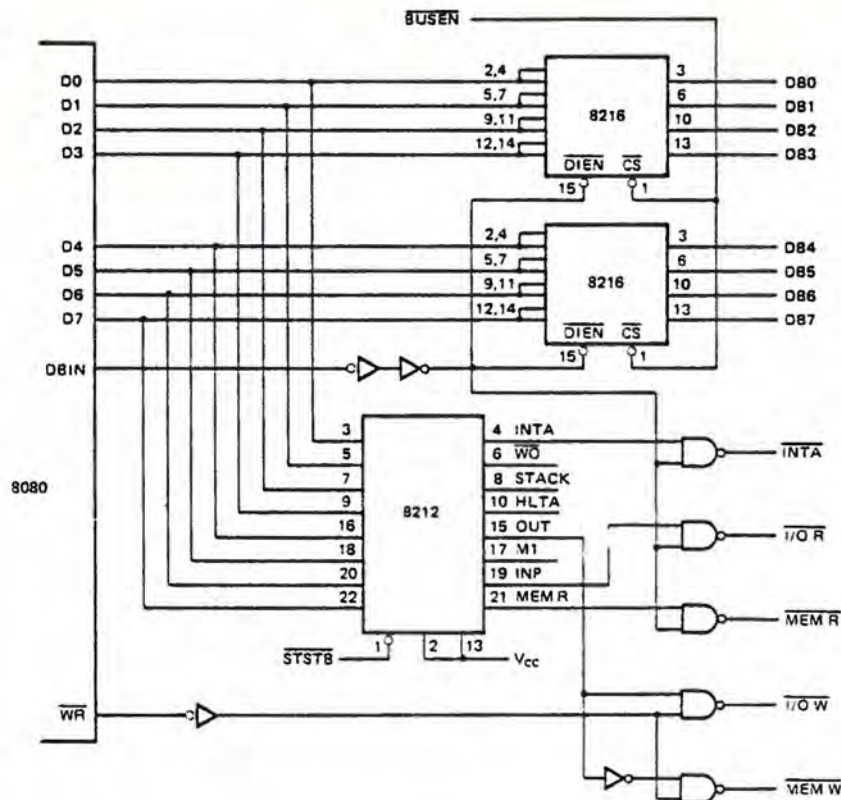

Figure 3-5. 8080 System Control
A pair of 8216's are connected directly to the 8080 Data Bus (D7-D0) as shown in figure 3-5. Note that the DBIN signal from the 8080 is connected to the direction control input ( $\overline{DI\overline{EN}}$ ) so the correct flow of data on the bus is maintained. The chip select ( $\overline{CS}$ ) of the 8216 is connected to BUS ENABLE ( $\overline{BUSEN}$ ) to allow for DMA activities by deselecting the Data Bus Buffer and forcing the outputs of the 8216's into their high impedance (3-state) mode. This allows other devices to gain access to the data bus (DMA).
As described previously, the 8080 issues Status information at the beginning of each Machine Cycle on its Data Bus to indicate what operation will take place during that cycle. A simple (8) bit latch, like an INTEL® 8212, connected directly to the 8080 Data Bus (D7-D0) as shown in figure 3-5 will store the